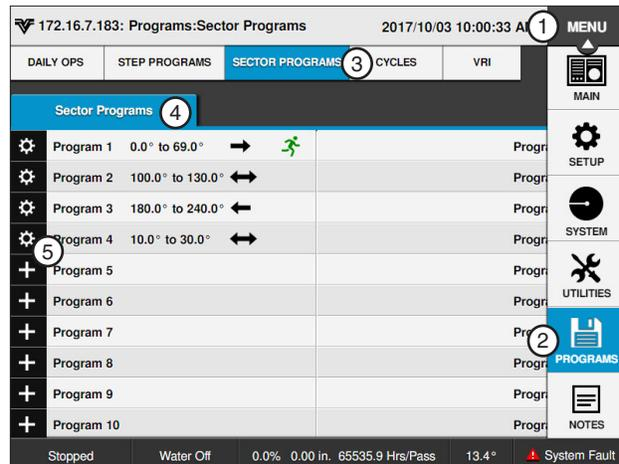

Figure 142-1 1. Menu 2. Programs 3. Sector Programs 4. Sector Programs 5. Add Program
1. Push **Menu**, **Programs** and **Sector Programs** to view the Sector Programs screen. Refer to Figure 142-1.